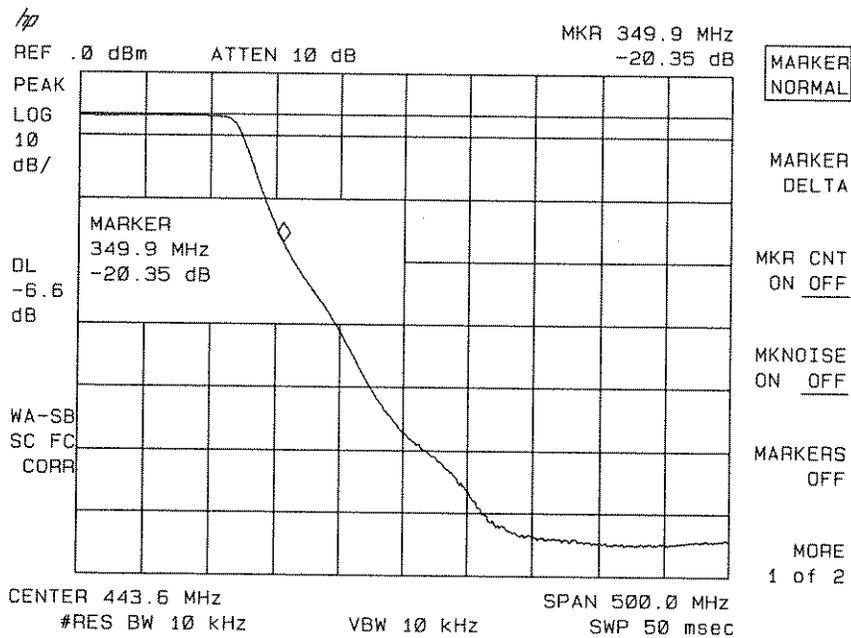

Figure 6-39. Measure the Rejection Range with Delta Markers
- To measure the rejection of the filter at a given frequency, press **(MKR)**, and enter the frequency. For example, enter 350 MHz. The marker readout displays the rejection of the filter at 350 MHz (see Figure 6-39).